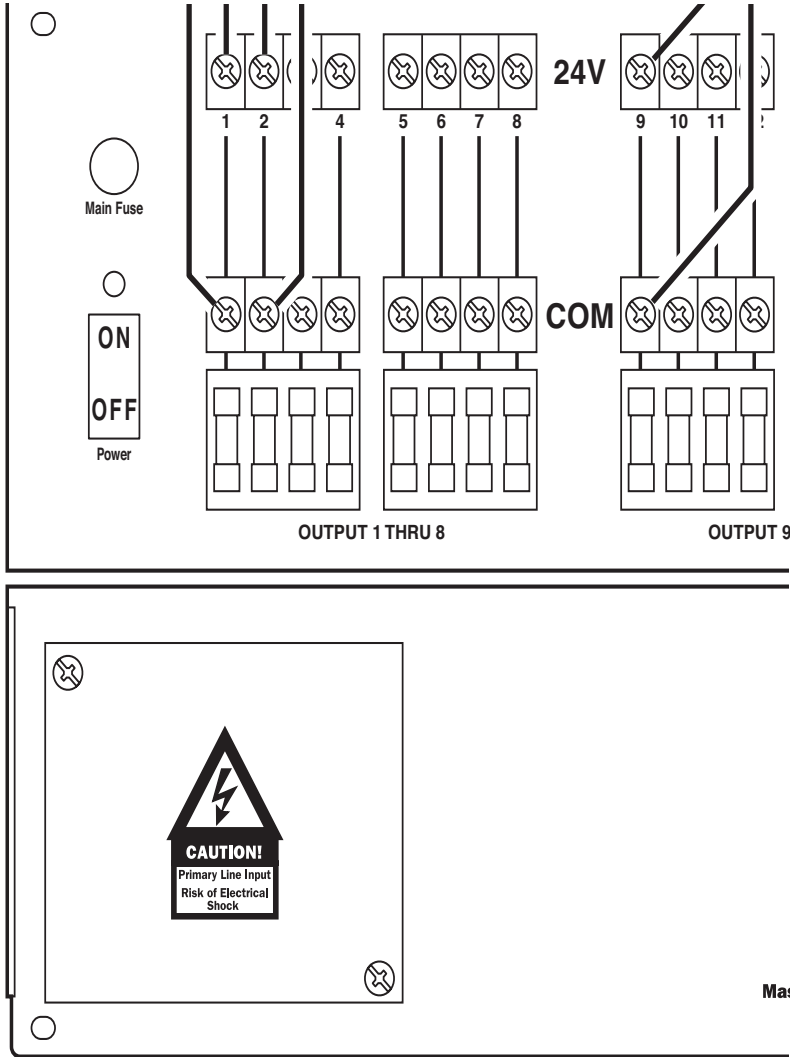

Figure 1. MCS*E Series Unit Wiring Connector Diagram
2. Refer to Figure 1 for the proper connector strip connections.